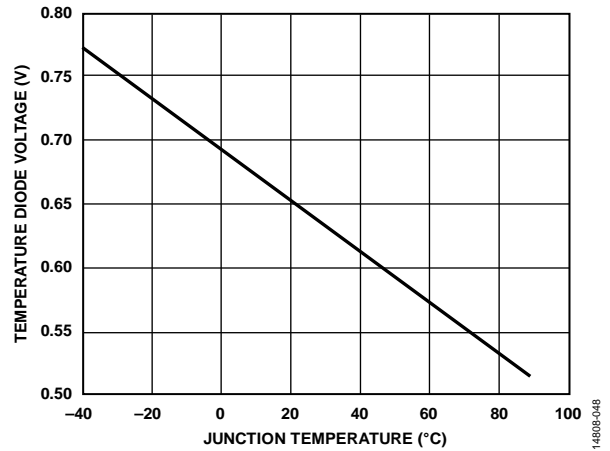

Figure 66. Temperature Diode Voltage vs. Junction Temperature
3. Set Register 0x18A6 to 0x00 to turn off the voltage reference. Set Register 0x18E6 to 0x01 to turn on temperature diode export. The typical voltage response of the temperature diode is shown in Figure 66. However, it is recommended to take measurements from a pair of diodes into account introducing another step.